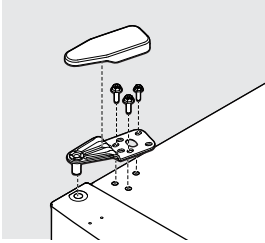

Figure 12
12. Attach the top hinge using a 5/16 in. socket, and then place the top hinge cover (some models) on the unit (see Figure 12).